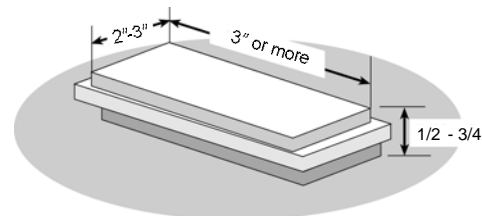

Figure 1
- A. Locate two Wood Blocks whose dimensions will raise the Wardrobe Door (#1) 1/2 - 3/4 off the floor surface or carpet (See Figure 1). It will also be helpful to have on hand a few thin wood strips or "shims" in case you need to adjust the height and alignment of the Wardrobe Door (#1) as you go.